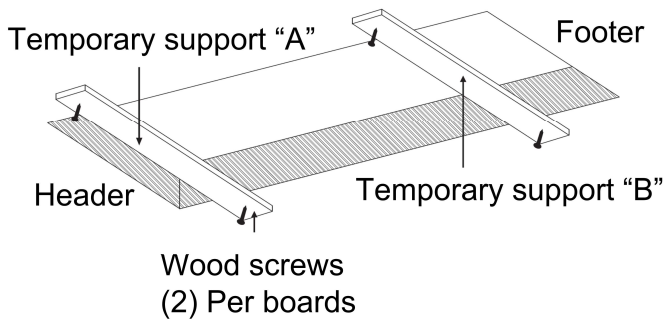
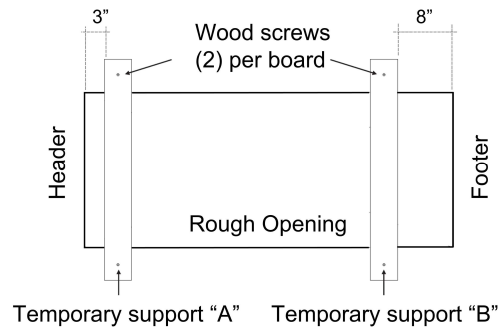

FIGURE 8 : BOARD SUPPORT INSTALLATION
FIGURE 9 : BOARD SUPPORT LOCATIONS
F. Attach temporary supports boards "A" and "B" (1" x 4" x 32") with 2-1/2" wood screws (not included). Support "A" will be 3" from the rough opening at the header/hinge end. Support "B" will be 8" from the rough opening at footer end. Be sure to follow these board placement dimensions so the temporary support boards do not hinder the remaining installation steps. See **Figure 8** and **Figure 9**.